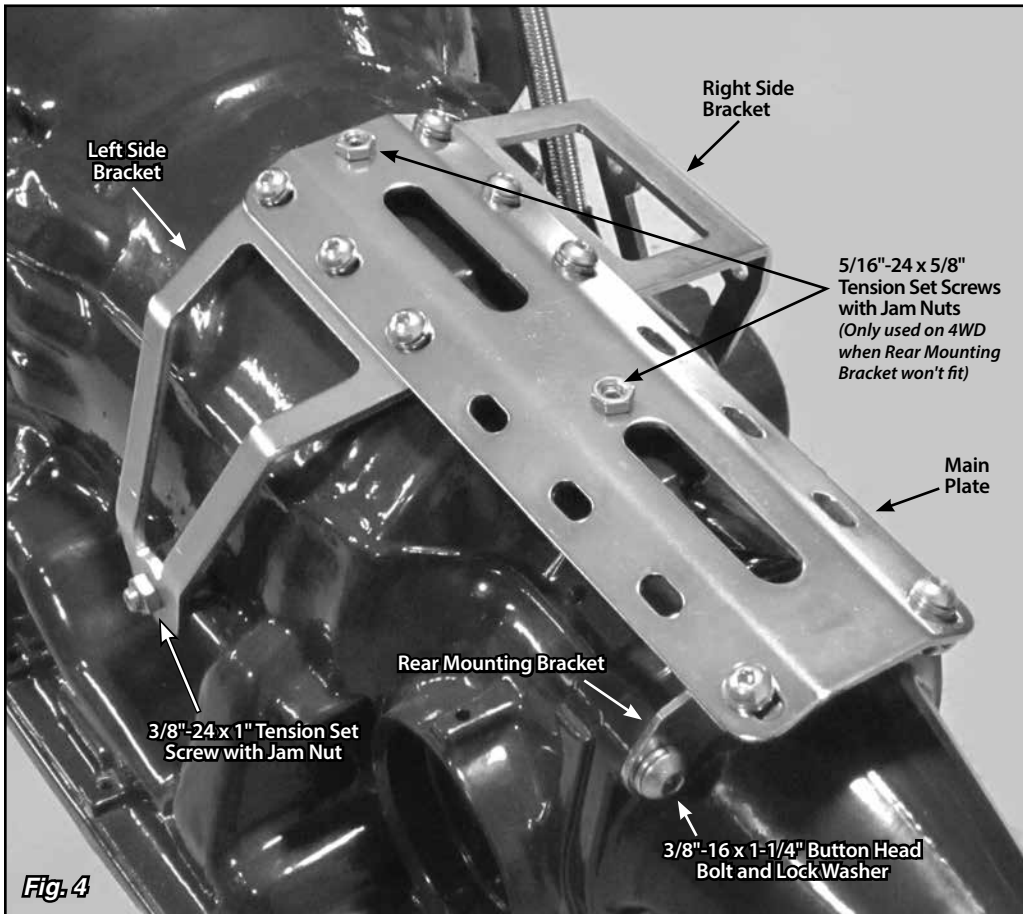

Fig. 4
Step 5: If you are using the rear mounting bracket, remove the top two tail housing bolts from the transmission. Install the mounting bracket assembly onto the transmission by first installing two 3/8"-16 x 1-1/4" button head bolts with lock washers through the rear mounting bracket and into the transmission at the tail housing. **Fig. 4** If you have a 4 wheel drive application that will not accept the rear mounting bracket, start the 5/16"-24 x 5/8" tension set screws into the tension set screw holes at the front and in the center of the shifter main plate. Set the mounting bracket assembly into place on top of the transmission. **Fig. 4**